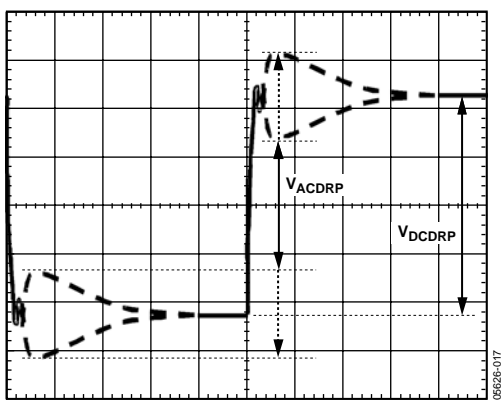

Figure 17. AC Loadline Waveform
- Measure the output waveform (use dc offset on scope to see the waveform). Try to use a vertical scale of 100 mV/div or finer. This waveform should look similar to Figure 17.